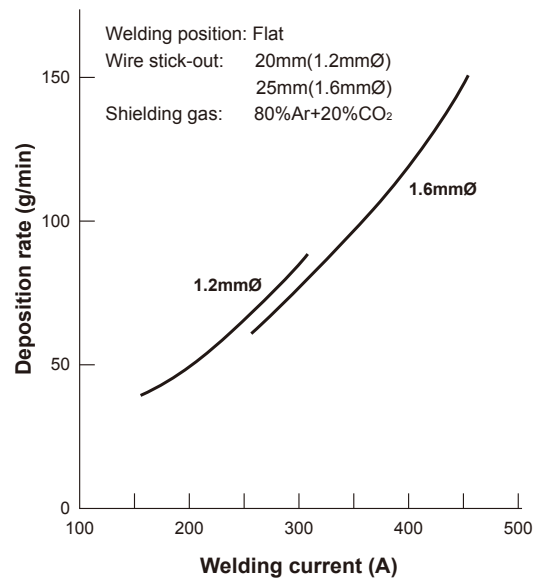

Fig. 2 — Typical deposition rates of FAMILIARC™ DW-A50 as a function of welding currents
- (2) Higher deposition efficiency (87-90%) and deposition rates due to a higher yield of deposited metal with less spatter-loss. Fig. 2 shows typical deposition rates of FAMILIARC™ DW-A50.